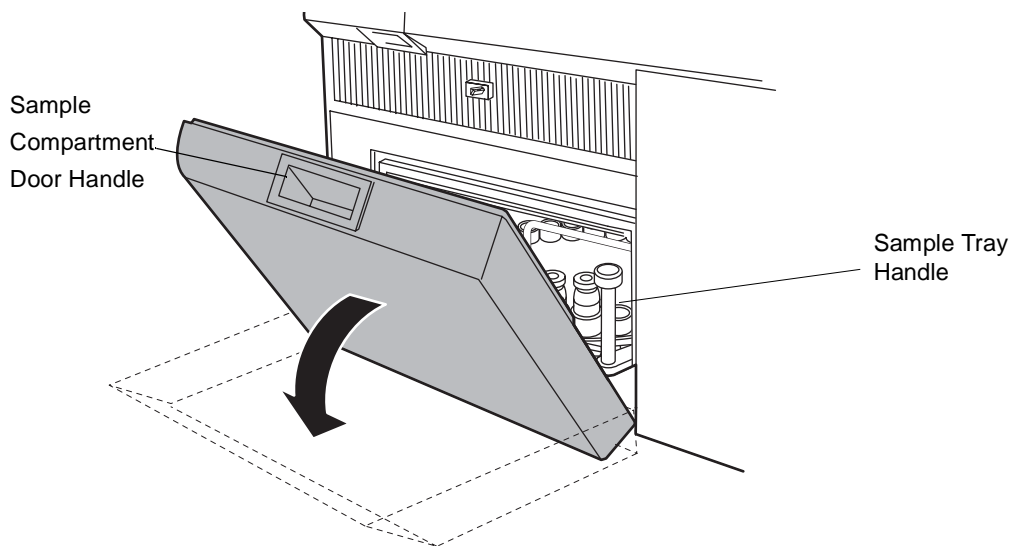

Figure 3-28 Opening the Sample Compartment Door
1. Before opening the sample compartment door, ensure the sample door button is illuminated. Open the sample compartment door by pulling the sample door (Figure 3-28) outward to a 90° angle.